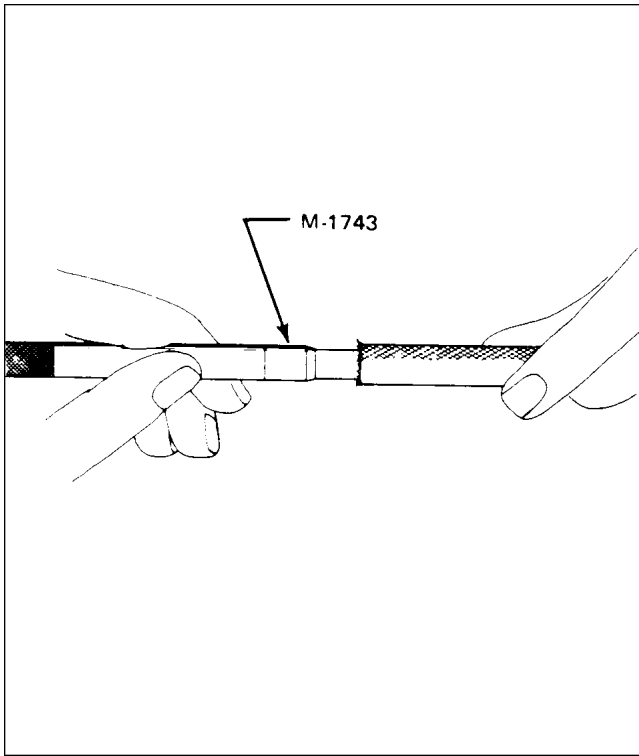

Figure 74-15. Stripping Tool
- c. Flare out shielding, then without allowing any shielding to fold under, insert Slick M-1743 stripping tool under braided shielding. Refer to Figure 74-15.